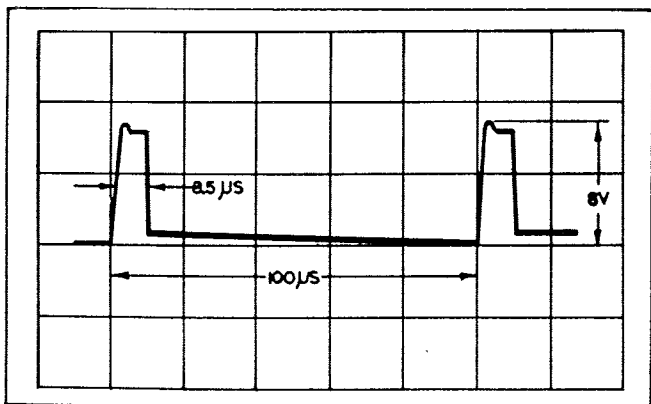

Figure 6.16 - Q9, Collector Waveform
j. Reconnect oscilloscope to collector of 10 KC multivibrator stage Q9 (top of R28). The observed waveform should resemble the one shown in figure 6.16.
e. Connect oscilloscope to the junction of R26 and the collector of Q9. Set R24 to the center of the range which results in a waveform with time between pulses equal to and amplitude close to those shown in figure 6.16.